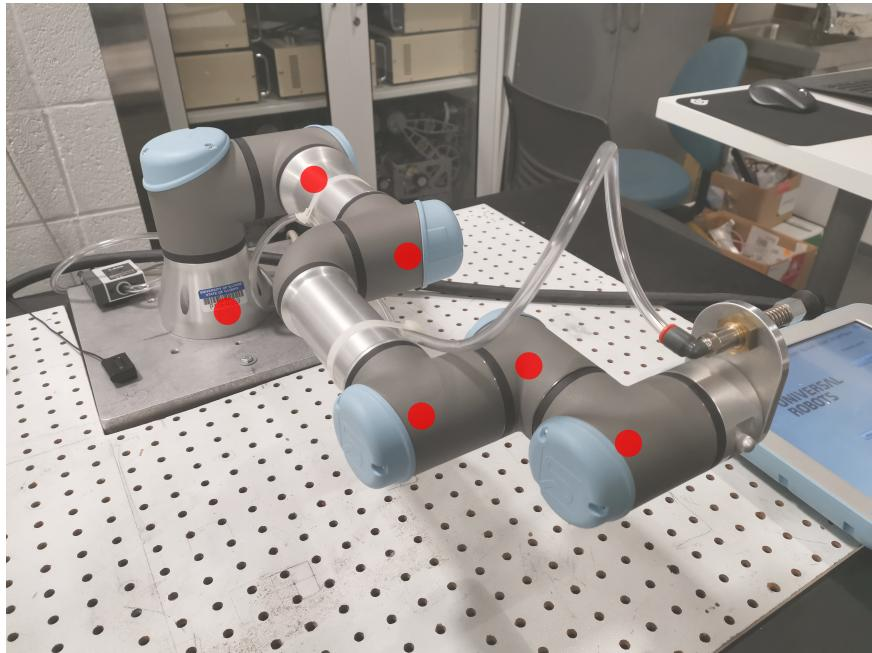

Figure 4.4: Joint center locations on UR3e.
- Figure 4.4 shows the joint centers to aid in locating your q values.